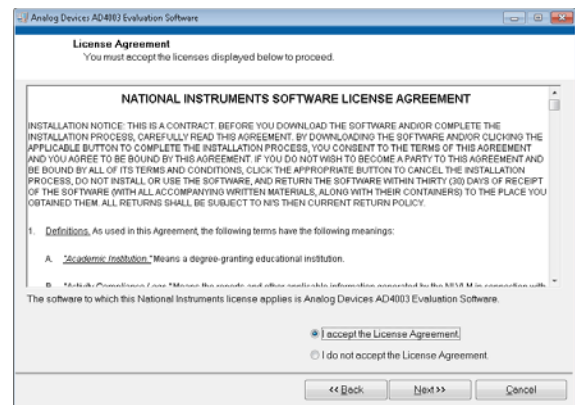

Figure 5. **License Agreement Window**
3. Accept the National Instruments software license agreement and click **Next** (see Figure 5).